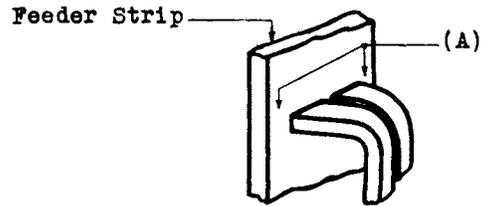

Fig. 5
Fig. 5 (A) - The contact portion of the lip of the feeder springs shall make contact for their full width with the feeder strips when the play of the commutator brush assembly is taken up in either direction for any position of travel of the commutator brush. Gauge by eye.